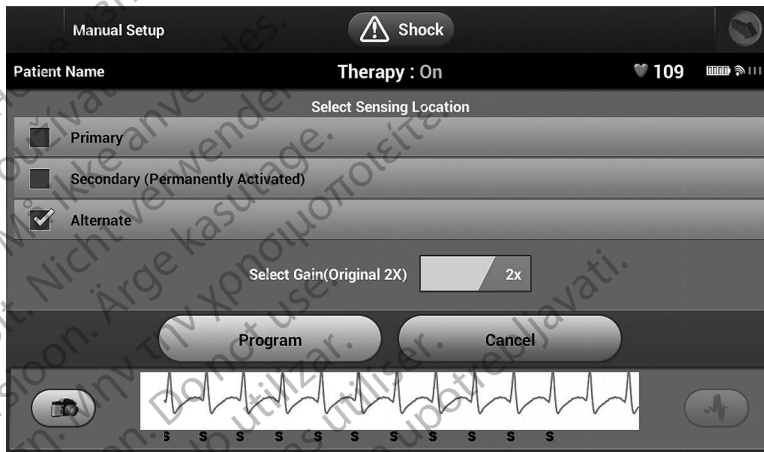

Figure 23: Manual Setup screen with sensing vector and gain options
4. There are three available sensing vectors that can be manually selected from the Manual Setup screen (Figure 23):